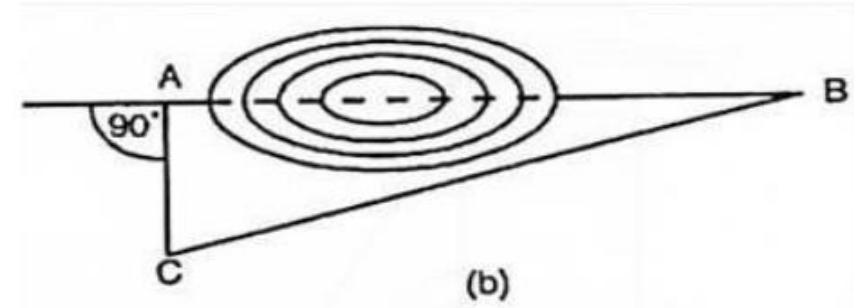

Fig. 3.21. (b)
(C) Find by optical square or a cross-staff a point C such that $\angle ACB$ is right angle [Fig. 3.21(c)] Measure AC and BC.